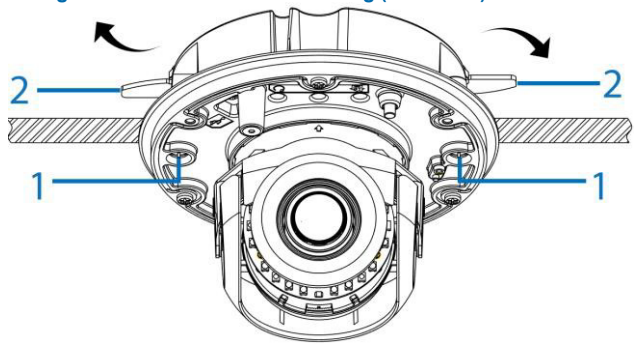

Figure 6
8. Use a cross screwdriver and turn both captive screws (1) (Figure 6) on the camera clockwise to extend out the locking arms (2) (Figure 6), then rotate the two captive screws anti-clockwise until the locking arms sit securely to the ceiling.